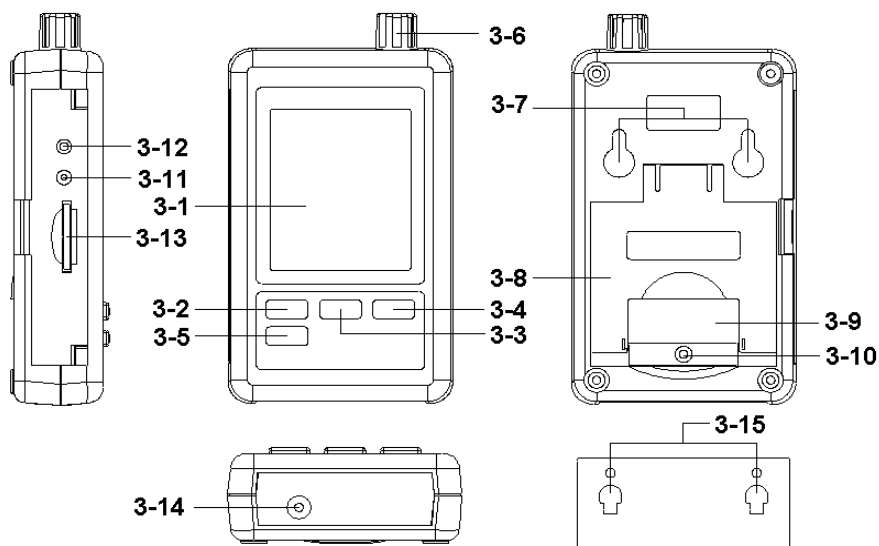

Fig. 1
- * Loose the " Screw of the battery cover " (3-10, Fig. 1) and take away the " Battery Cover " (3-9, Fig. 1) from the meter.
- 2) The " Display " (3-1, Fig. 1) will show both the Humidity, Temperature and Barometer value that sensing from Humidity/Temp./Barometer sensor " (3-6, Fig. 1).
Prepare a " SD memory card " (1 GB to 16 GB, optional), insert the SD card into the " SD card socket " (3-13, Fig. 1) with the correct direction exactly.
Press the " Logger button (3-2, Fig. 1) > 2 seconds continuously, until the Display show the indicator " DATALOGGER ", release the " Logger Button " (3-2, Fig. 1), then the measuring data along the time information will be saved into the memory circuit.
During execute the Datalogger function (Display show the " Datalogger " indicator), press the " Logger button " (3-2, Fig. 1) > 2 seconds continuously, until the Display indicator " DATALOGGER " is disappeared, release the " Logger Button " will finish the Datalogger function.
Press " Time button " (3-3, Fig. 1) > 2 seconds continuously, the LCD display will present the time information of Year/Month/Date, Hour/Minute/Second and the sampling value.
- 1) After execute the Data Logger function, take away the SD card out from the " SD card socket " (3-13, Fig. 1).